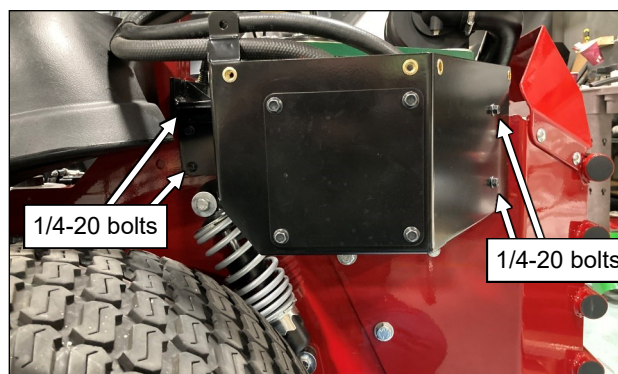

Fig. 9.1 (Compressor Debris Cover)
- 9.1 See fig. 9.1. Install the Compressor Debris Cover onto the A/C compressor mount as shown.